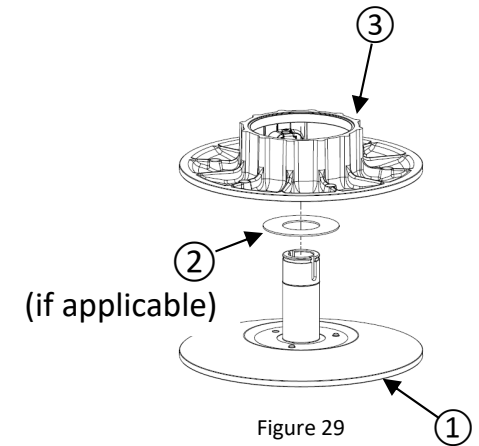

Figure 29
- Put the washer ② (if applicable) on the fixed sheave ① then put the sliding sheave ③ (figure 29).